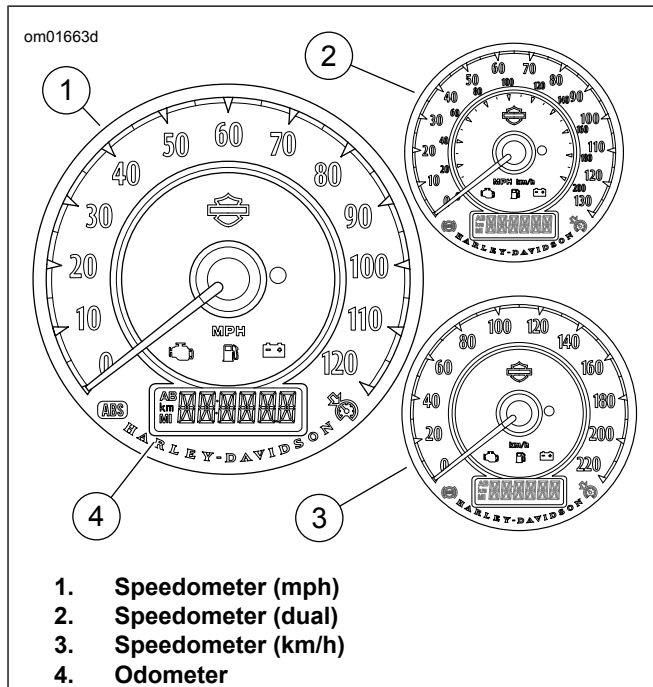

Figure 23. Instruments: All except XL1200CX
See Figure 23. The speedometer (1) registers miles per hour (U.S. models), kilometers per hour (international models) or in certain markets, displays both mph and km/h.
See Figure 23. The odometer window (2) is located in the speedometer face.